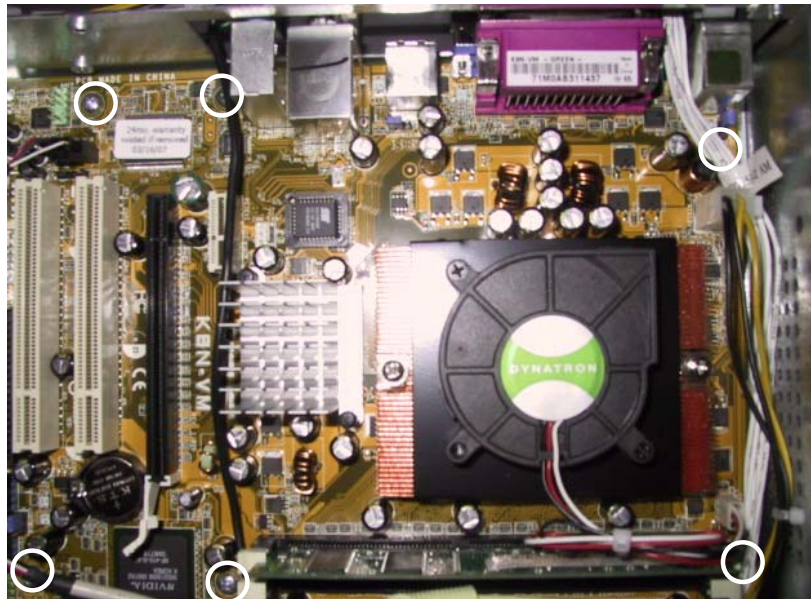

FIGURE 7 - SCREWS SECURING ASUS MOTHERBOARD
8. Remove the 6 screws securing the motherboard to the electronics box. See Figure 7.
1. Set the motherboard in place within the electronics box (with the connector side facing up), then secure the board with 6 screws. See Figure 7.